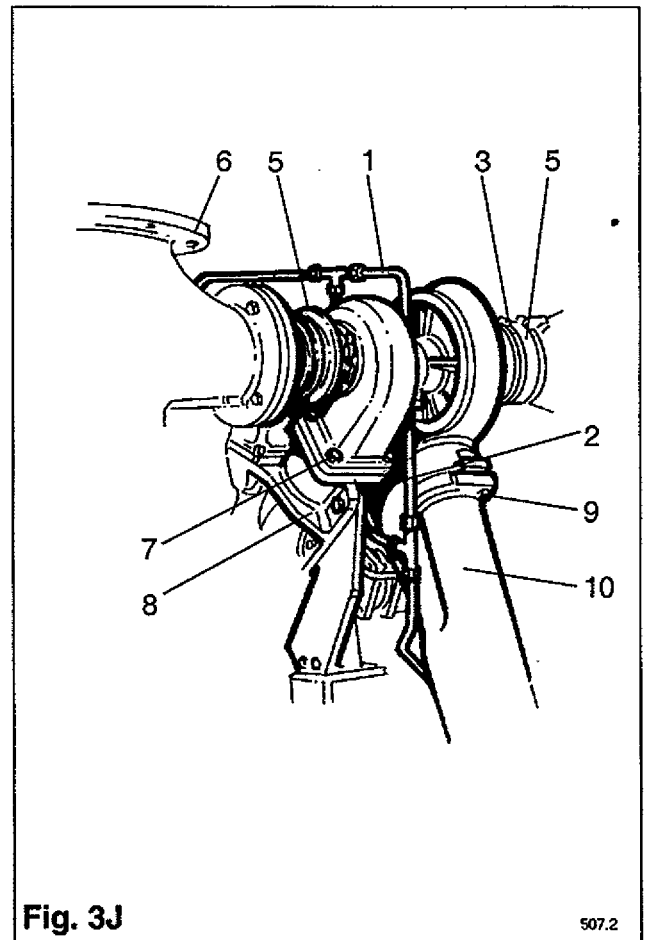

Fig. 3J
Remove the four oil feed pipe assemblies (1) and detach the four oil drain pipes (2) from the turbochargers. Plug all the holes. Remove the eight hose clips (3) and four hoses (4) connecting the turbochargers to the air shut-off valves. Remove the four 'V' band clamps (5) securing the turbochargers to the exhaust elbows (6), and the sixteen nuts and bolts (7) attaching them to the exhaust 'Y' pieces (8). Finally take out the two capscrews (9) securing each turbocharger to the air 'Y' pieces (10) and lift them off one at a time. Cover all holes to prevent anything falling into the inlet or exhaust systems. See Fig. 3J.
Fit the capscrews to the air 'Y' pieces, and the nuts and bolts (7) to the exhaust 'Y' pieces (8). Secure the oil drain pipes (2), and pour about one litre of new engine oil into each turbocharger before attaching the oil feed pipes (1), which **should be fitted with the special joint and strainer combined** (see **Illustrated Spares Catalogue**) for the **first 8 hours of running**, after which it must be replaced with the standard joint see **Fig. 3J**.